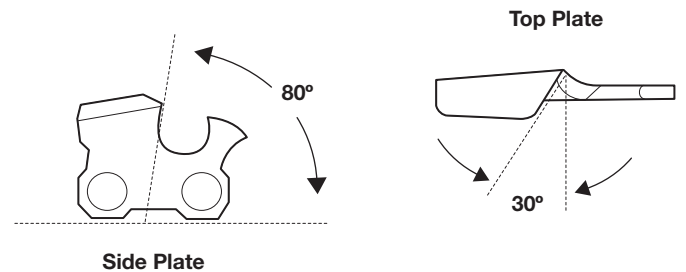

Fig. 35
- Apply a few firm strokes to each tooth. When filed correctly, the top plate will be at a 30° angle and the side plate will be at an 80° angle (Fig. 35). Using the correct file and file holder will automatically produce the correct angles.